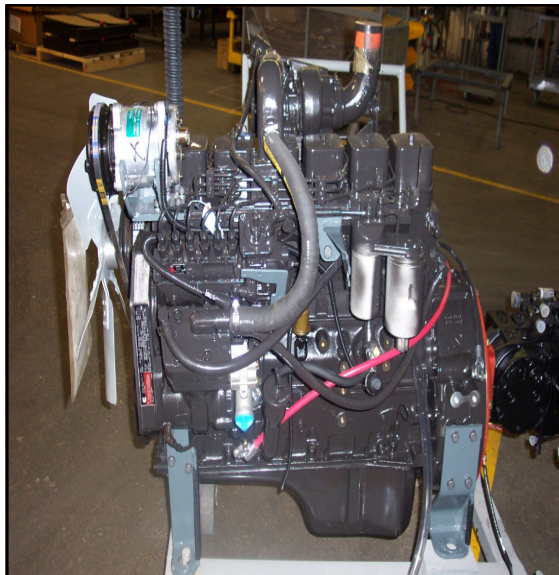

FIG 28-1
**Cummins diesel engine and hydrostatic pump**– The DTS 8T comes standard with a 5.9 liter turbo-charged Cummins diesel engine (fig. 28-1). The engine has a Sauer-Danfoss 130cc hydrostatic pump (fig. 28-3) that is responsible for the distribution of hydraulic fluids throughout the hydrostatic drive system’s components.